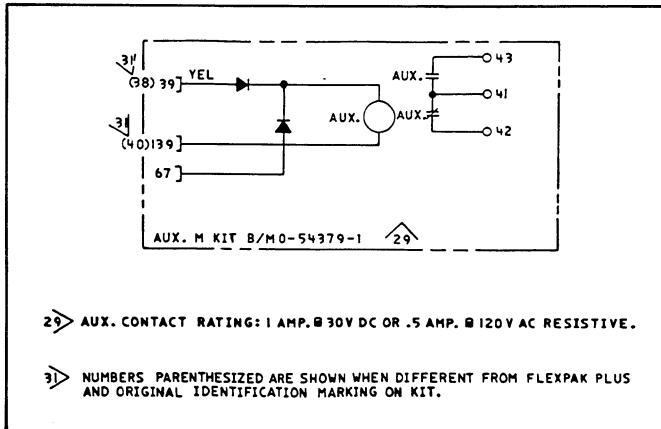

Figure 5.7. Auxiliary M Contactor schematic diagram.
The Kit provides a single pair of Form C contacts, one normally open (NO) and one normally closed (NC). Both share a common terminal. (Refer to Figure 5.7.) These contacts function when the M contactor is energized.